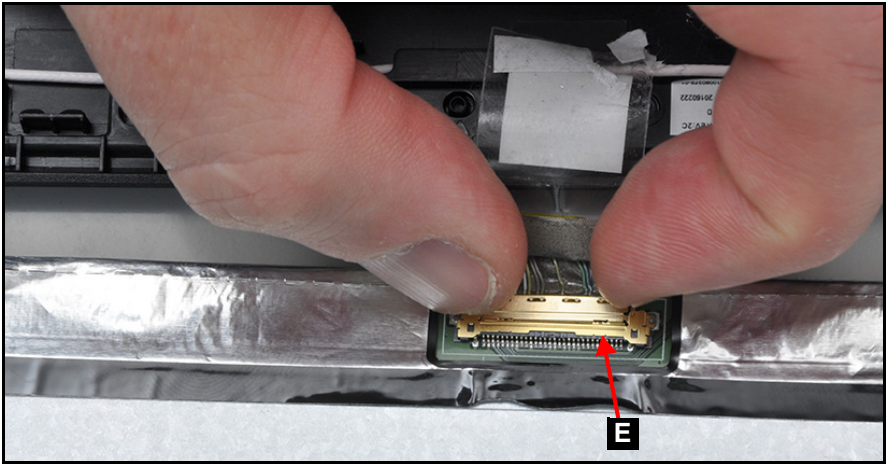

Figure 3-60. eDP Connector Location
5. Disconnect the eDP cable from the LCD panel connector (E) (Figure 3-60).